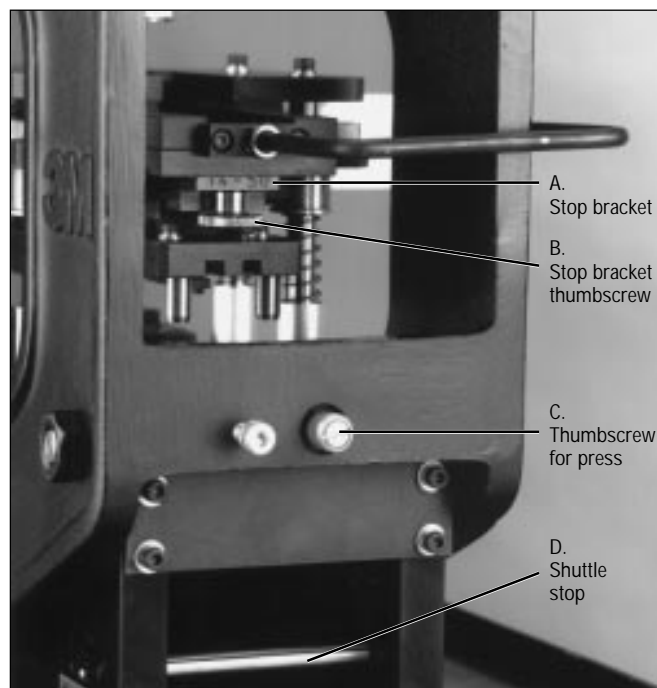

Figure 2. Back of press
3. Locate the thumbscrew (C of Fig. 2) at the back of the press. Loosen the thumbscrew and gently lower the armature of the press away from the operator (Fig. 3). This allows easy access to the back of the press to install the cutting unit.
Stop brackets are installed using the thumbscrew (A & B of Fig. 2).
8. After installing the stop bracket, position the armature of the press back in an upright position. Tighten the thumbscrew (C of Fig. 2) to hold it in place.
9. Located at the back of the press is a silver, dowel shaped shuttle stop (D of Fig. 2). Set shuttle stop for appropriate connector pin count.